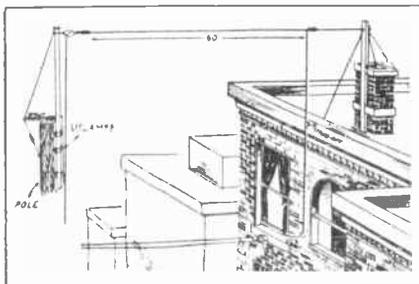

FIG. 4
4. Most servicemen do not want to go to the trouble of erecting poles. In fact, many customers will not tolerate the expense. In those cases you will have to look around for other supports. Figure 4 is an example where advantage is taken of the surroundings, in this case a clothes